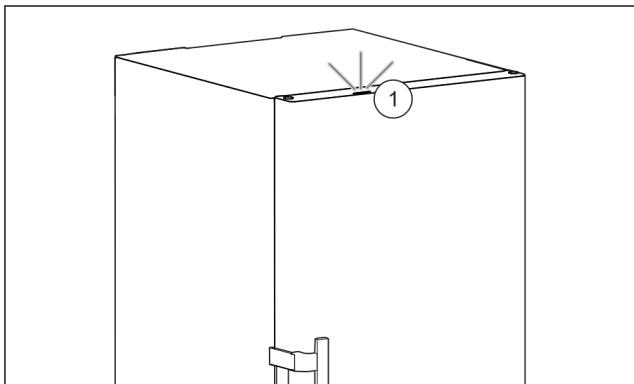

Fig. 42 Active status light when the door is closed
► Status light Fig. 42 (1) is activated.